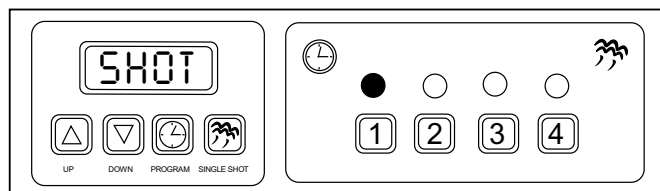

Figure 6. SHOT Mode on Menu 1
SHOT (Steam Shot Time) is used to adjust the water volume used during each solenoid operation (shot of steam) (Figure 6).
9. Press the PROGRAM button again and SHOT will appear in the display for a moment (Figure 6).
11. Press the selected channel button to store the changes (Figure 6) or press another channel button to store the changes and select a new channel.